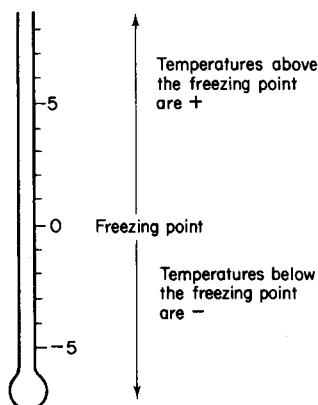

Fig. 1.13
**Positive and negative numbers.** Fig. 1.13 shows part of a Celsius thermometer. The freezing point of water is  $0^{\circ}\text{C}$ . Temperatures higher than freezing may be read off the scale directly and so may those below freezing. We now need a way of indicating whether a temperature is